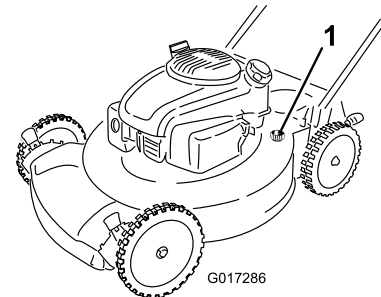

Figure 23
4. Attach a garden hose that is connected to a water supply to the washout port on the machine housing (Figure 23).